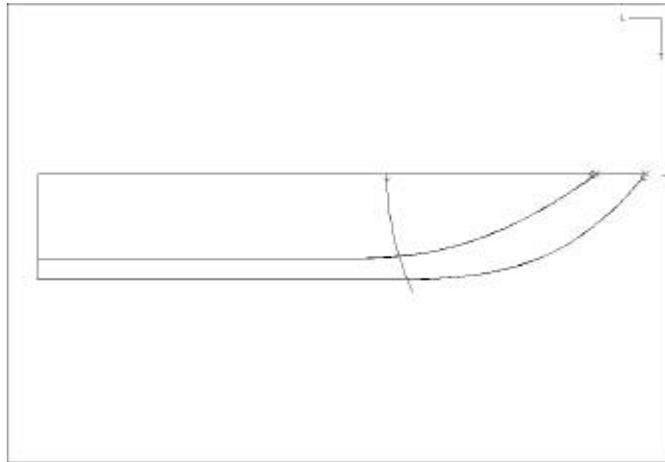

Figure 1-14: Transom Shape curve
2. In the *Create Curve* dialogue, select the **Arc** tab, type the following information, and click **OK**: (see figure 1-14.)